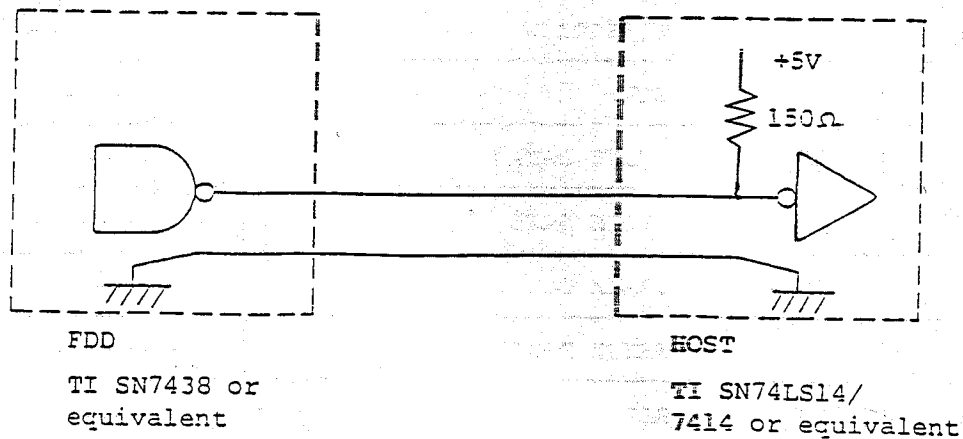

Fig. 3-2 Output
| (2) Output circuit | See Fig. 3-2 |